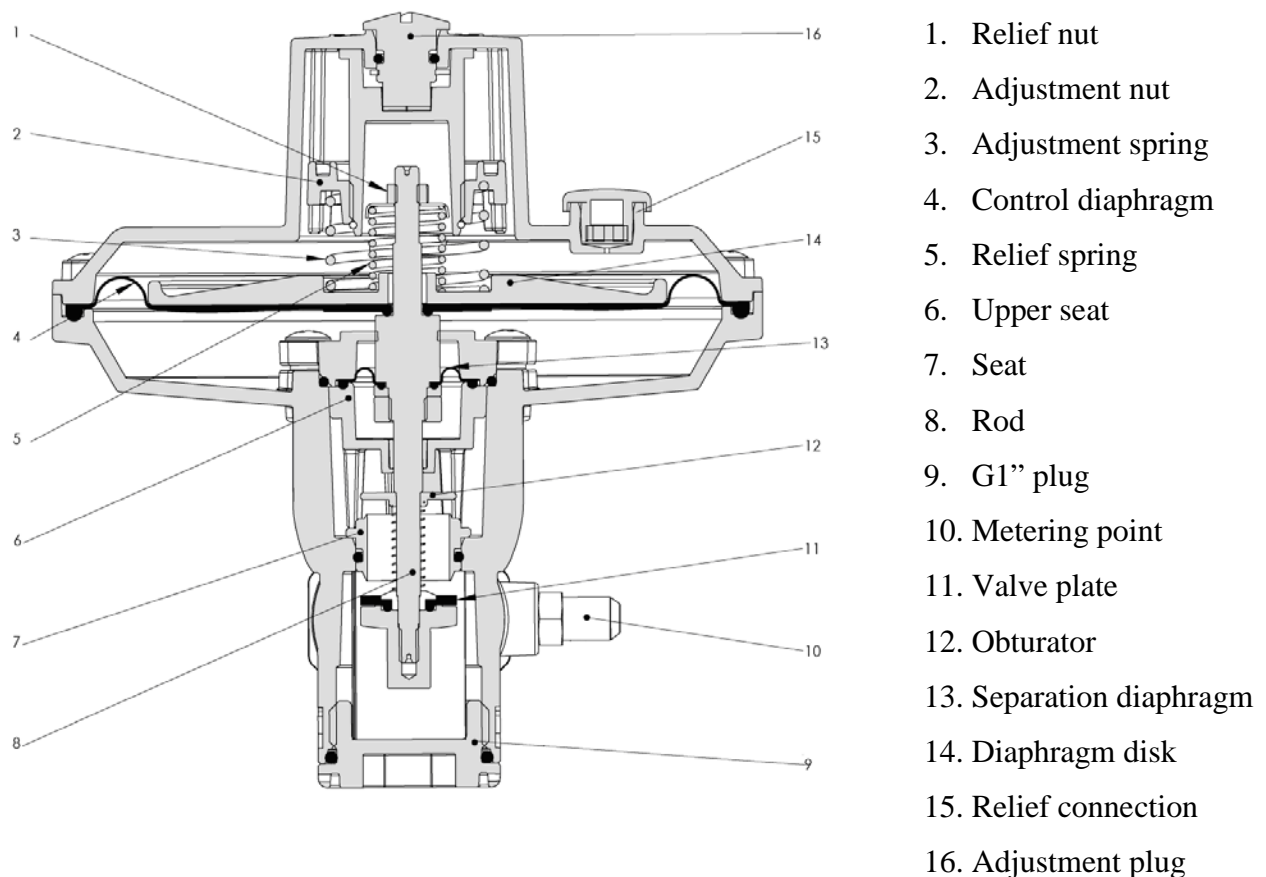

Figure 2 – Main components of RTG 25 C
A decrease in the inlet pressure or an increase in the consumed gas flow determines the regulator to open further. At a certain point, the obturator (12) – Figure 2 - reaches the upper edge of the seat (7), preventing the gas from passing through the regulator.